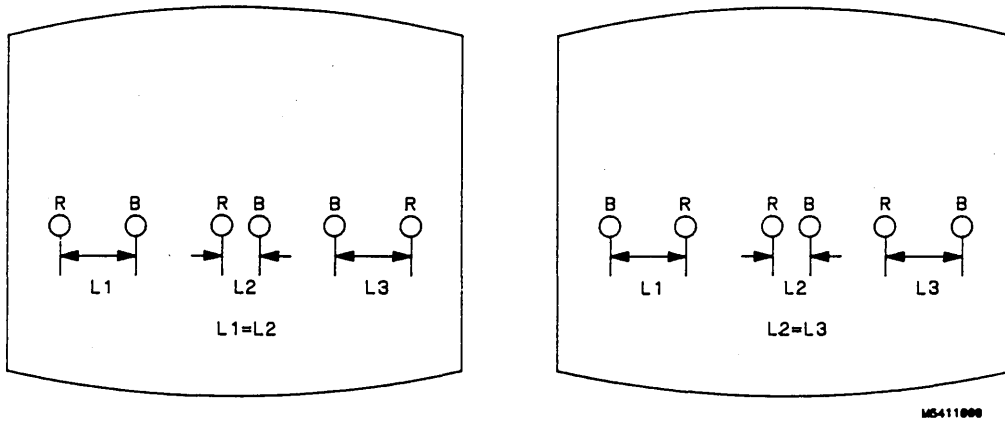

Figure 4-23. H.AMP Adjustment.
- Adjust H.AMP (RV807), located on bottom PC board, for equal amounts of mis-convergence at right and left sides of screen (see figure 4-23).